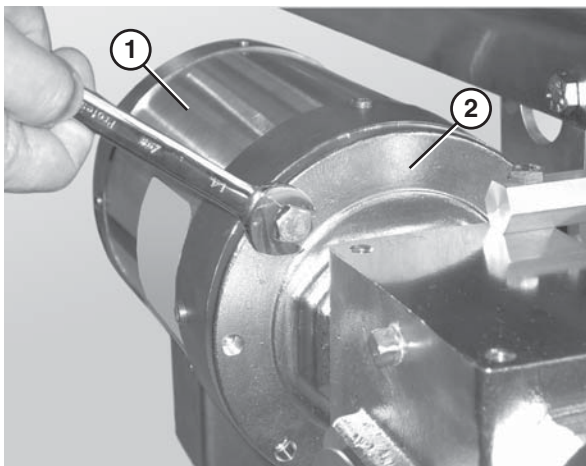

Figure 53
2. Remove the bolts that connect the motor to the drive assembly (**Figure 53**).
3. Remove the motor (**Figure 53, item 1**) from the drive assembly (**Figure 53, item 2**).